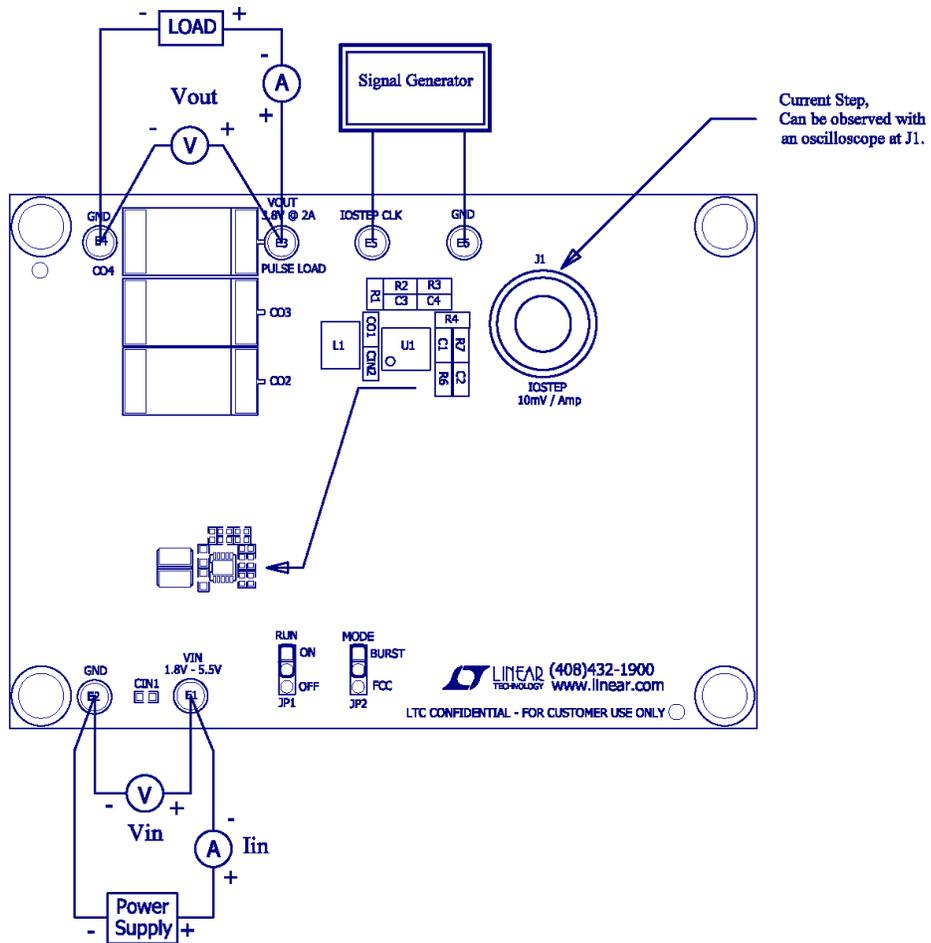
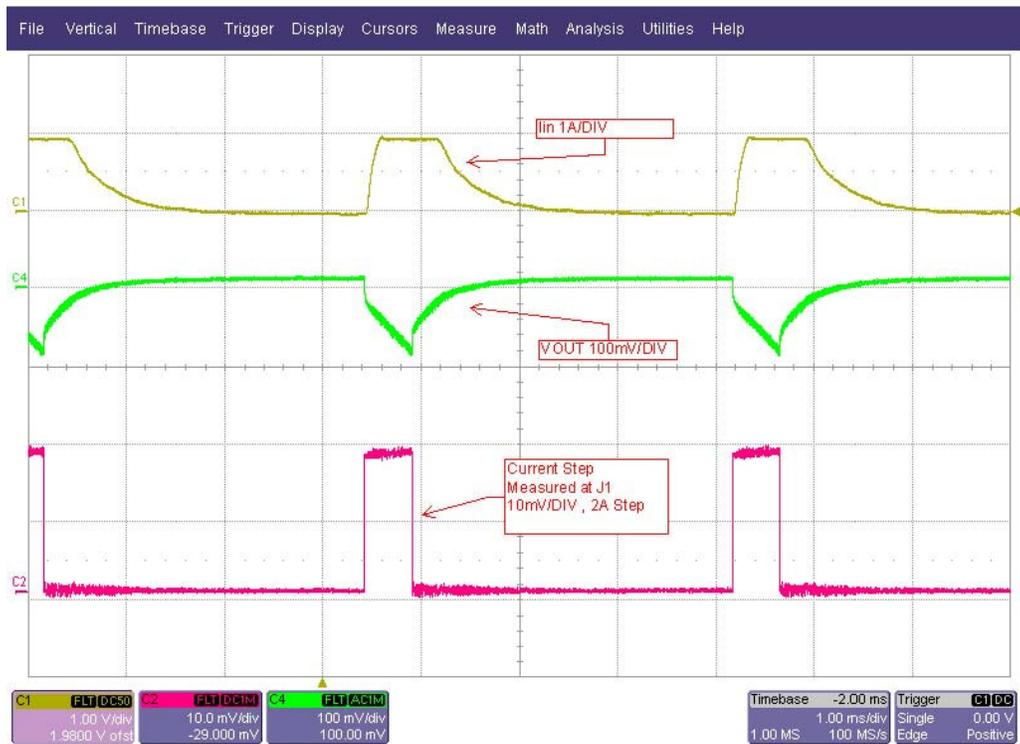
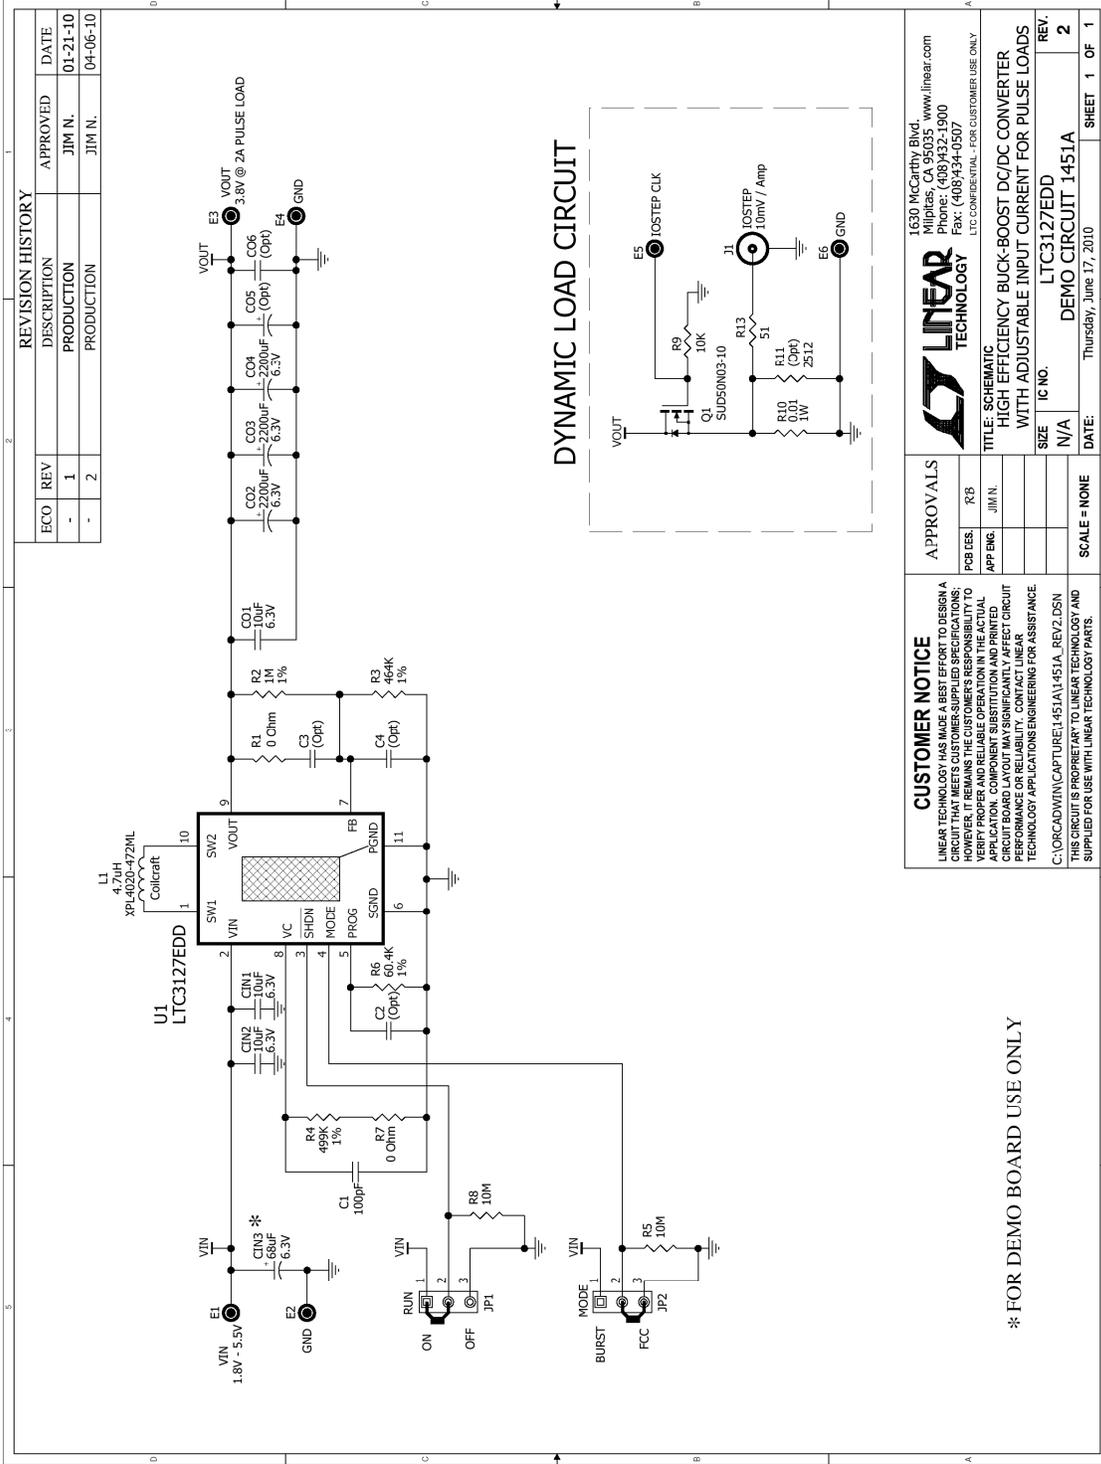

Figure 1. Connection Diagram
Figure 3. Step Load Response
Figure 4. Circuit Schematic
Using short twisted pair leads for any power connections and with all loads and power supplies off, refer to Figure 1 for the proper measurement and equipment setup. The Power Supply (PS) should not be connected to the circuit until told to do so in the procedure below.
Demonstration circuit 1451A can be setup for simple evaluation of pulse loads – please see optional circuit (Dynamic Load Circuit) in Figure 1 and Figure 4 for proper setup. The circuit is capable of pulsed loads of up to 2A with duty cycles up to 15%. Starting from step 7 in the quick start procedure above, follow the procedure below:
8. Connect Signal Generator with an adjustable output amplitude between IOSTEP CLK and GND as shown in Figure 1. Adjust the signal generator output to produce a pulse of 2A as measured at J1 (IOSTEP, 10mV/DIV) with an ON time of 576 μ S and a period of 4.6 mS shown in Figure 3. Adjust the period and duty cycle of this signal to match that of the required load prior to attaching the pulse generator. The amplitude can vary but is approximately 2Vpp for a 2A step. Oscilloscope termination should be 1M Ω .
An example result showing Vout and a pulse load Iout is given in Figure 3.